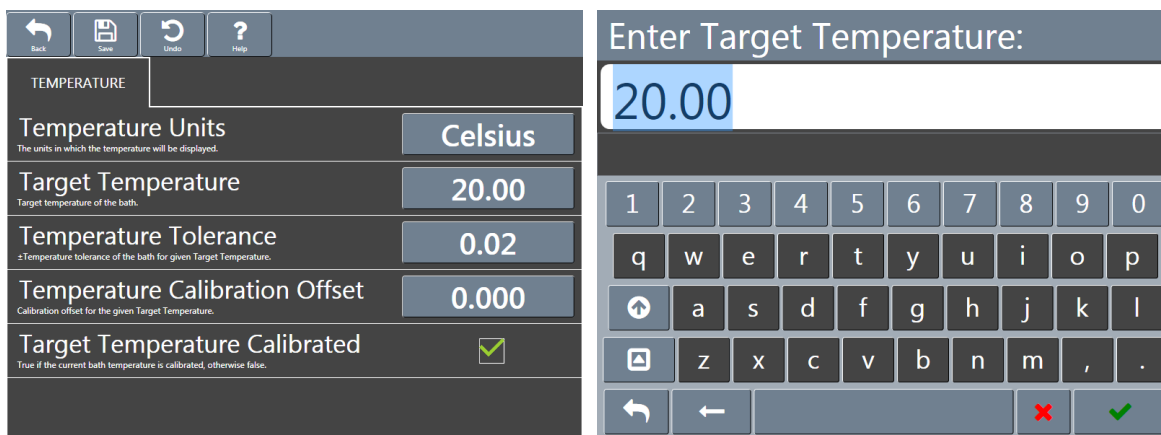

Figure 8 — Temperature Settings Screen and Field Entry Screen
- Click the **Target Temperature** field. A field entry screen opens. See Figure 8.